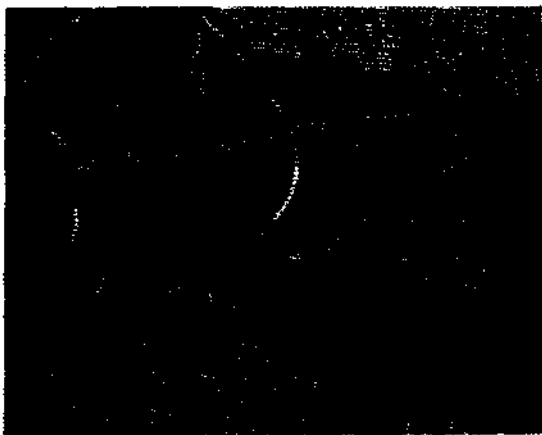

Figure 107. Removing bypass plunger
(6) Remove bypass plunger from cylinder base (fig. 107).
(7) Remove straight pin from each end of roller pin and remove pin and roller.
(1) Assemble hydraulic cylinder.
- (a) Insert bypass plunger in cylinder base (fig. 107).